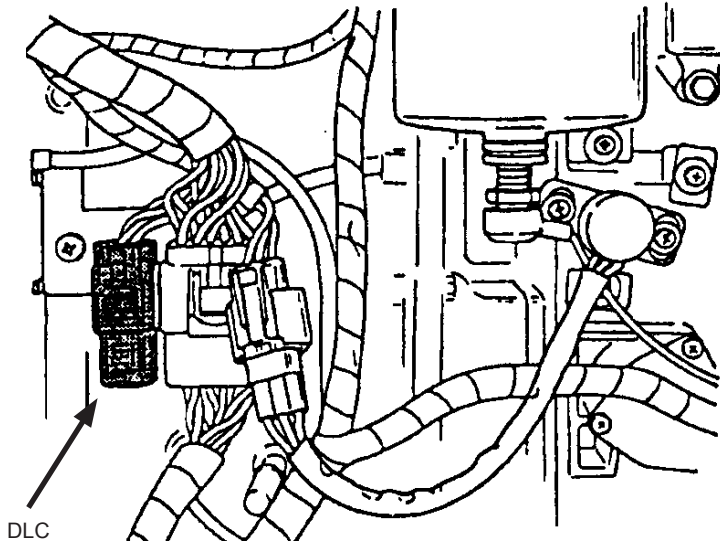

Figure 25 4 pin Diagnostic Link Connector
- 4) Connect the 94011 adapter to the engine's diagnostic connector as shown in Figure 25.